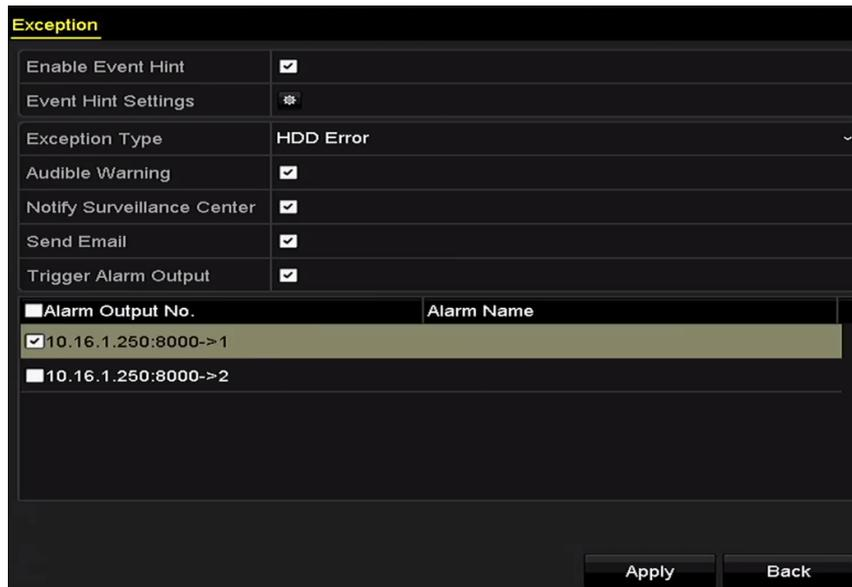

Figure 12-26 Configure HDD Error Alarm
Step 3 Check the checkbox(s) below to select the linkage action(s) for HDD error, as shown in Figure 12-26.